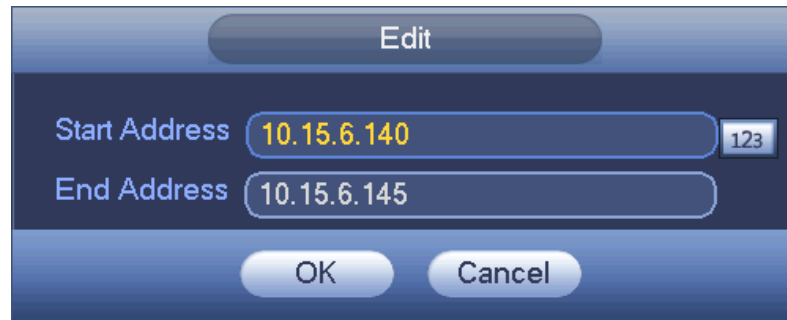

Figure 4-131
- **Edit:** Click it to edit start address and end address. See Figure 4-131. System can check the IP address validity after the edit operation and implement IPv6 optimization.